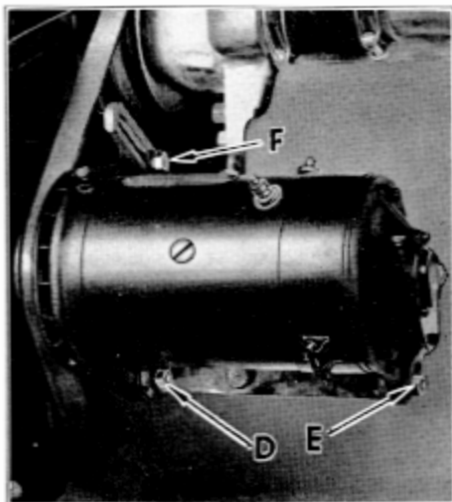

Figure 26
Adjustment is made by loosening cap screws and nuts (D), (E) and (F), Figure 26). When proper position has been obtained, be sure to tighten screws and nuts securely.